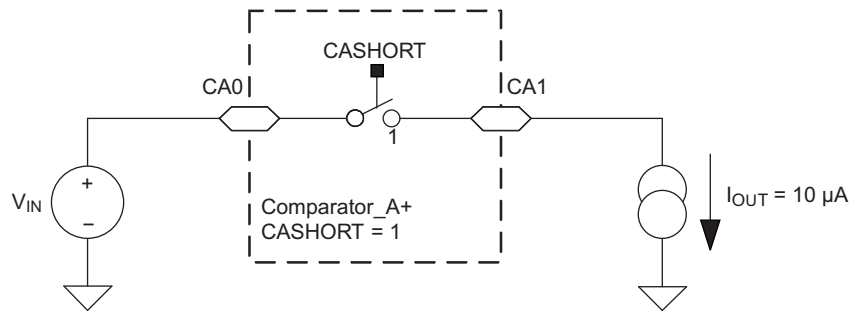
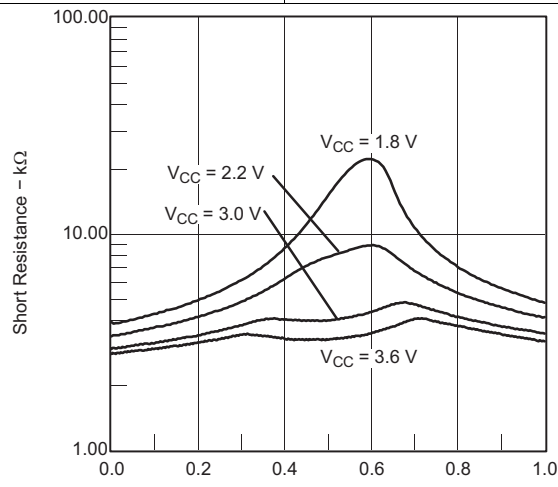

Figure 5-34. Comparator\_A+ Short Resistance Test Condition
Figure 5-37. Short Resistance vs  $V_{IN}/V_{CC}$
- (1) The leakage current for the Comparator\_A+ terminals is identical to Ilkg(Px.y) specification.
- (2) Also see Figure 5-34 and Figure 5-37.
- (3) The input offset voltage can be cancelled by using the CAEX bit to invert the Comparator\_A+ inputs on successive measurements. The two successive measurements are then summed together.
- (4) The response time is measured at P2.2/CAOUT/TA0/CA4 with an input voltage step and with Comparator\_A+ already enabled (CAON = 1). If CAON is set at the same time, a settling time of up to 300 ns is added to the response time.